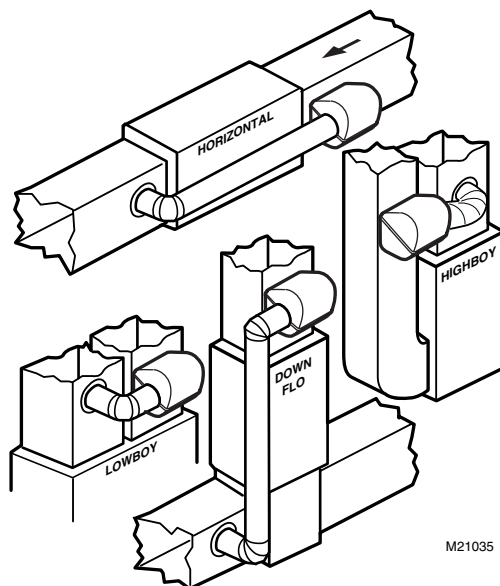
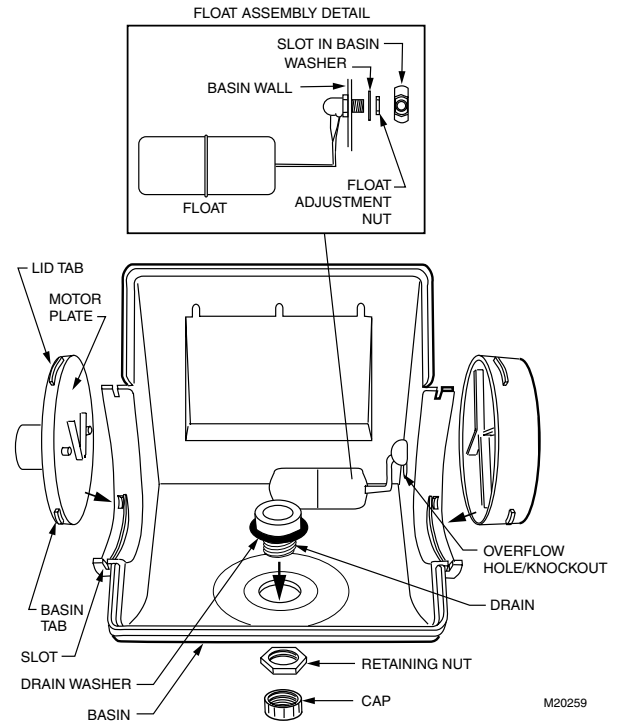

Fig. 2. Typical humidifier installation locations.
Fig. 3. Humidifier components.
1. Determine the best location for the humidifier (see Fig. 2) and draw a level line on the duct. See Fig. 3 for humidifier components.